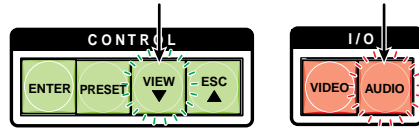

Figure 65. RS-232/RS-422 and Baud Rate Selection
3. **To change a value**, press and release the button that selects the desired value (see figure 65).